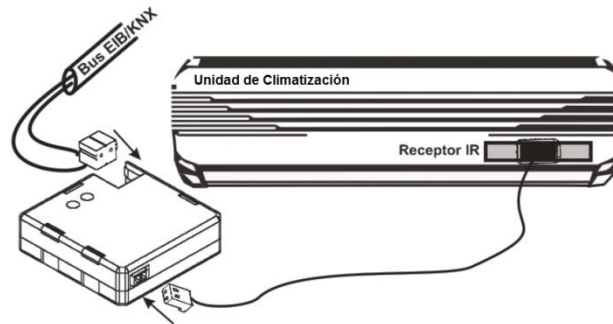

Figure 3. IRSC - A/C Unit Interface
- **Air connector Base (6):** slot for the insertion of the aerial connector, through which the IR commands are outputted from IRSC.
Figure 3 shows how to locate the IR emitter (5) in front of the climate system.